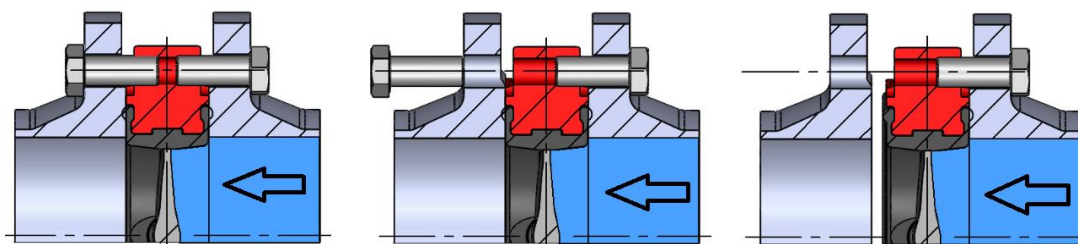

Fig. 7: Removing the flange behind the valve
- Check that the pressure before the valve does not exceed: DN50–150: 12 bar / DN200–300: 10 bar / DN350–400: 8 bar / DN450–600: 6 bar. The figures below (Fig. 7) show LUG-type valves (with threaded holes) mounted between pipeline flanges.